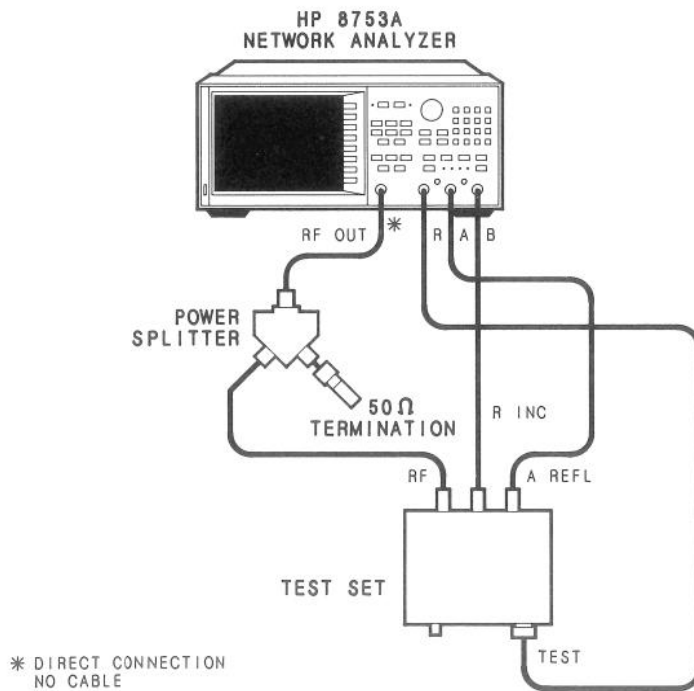

Figure 13. R Input Impedance Test Setup
18. Connect the equipment as shown in Figure 13.